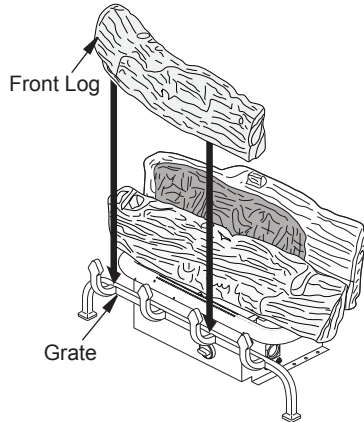

Figure 19 - Installing Front Log
3. Place front log onto grate as shown in Figure 19. Front log has cut outs for the fingers of the grate to fit into.